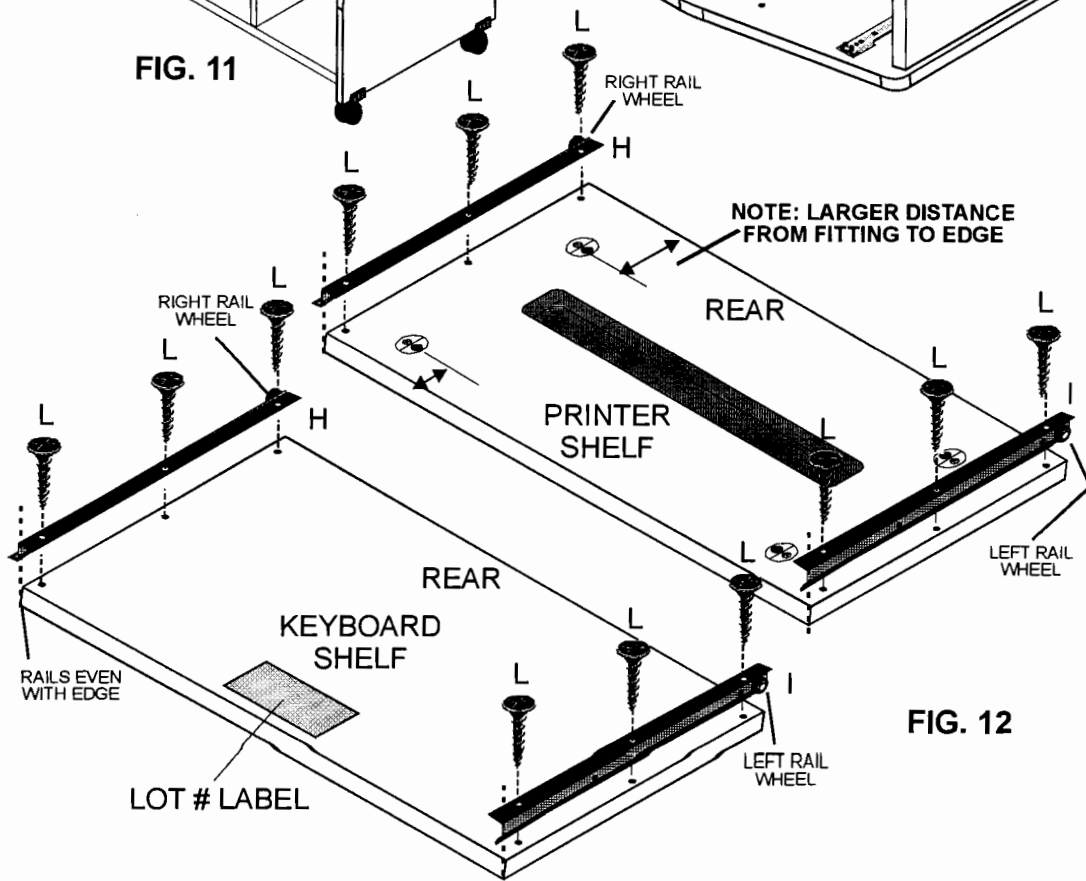

FIG. 12
Lay KEYBOARD SHELF and PRINTER SHELF on a flat, non-scratch surface, rail mounting holes facing up. FIG. 12 Align and attach (1) RIGHT DRAWER RAIL (H) and (1) LEFT DRAWER RAIL (I) to each using (3) #6 X 5/8" FLAT HEAD SCREWS (L) as shown. NOTE: Wheel on rail to the rear of the shelf. On PRINTER SHELF reference rear of shelf by larger distance of fitting to edge. Rear of KEYBOARD SHELF opposite LOT # LABEL.